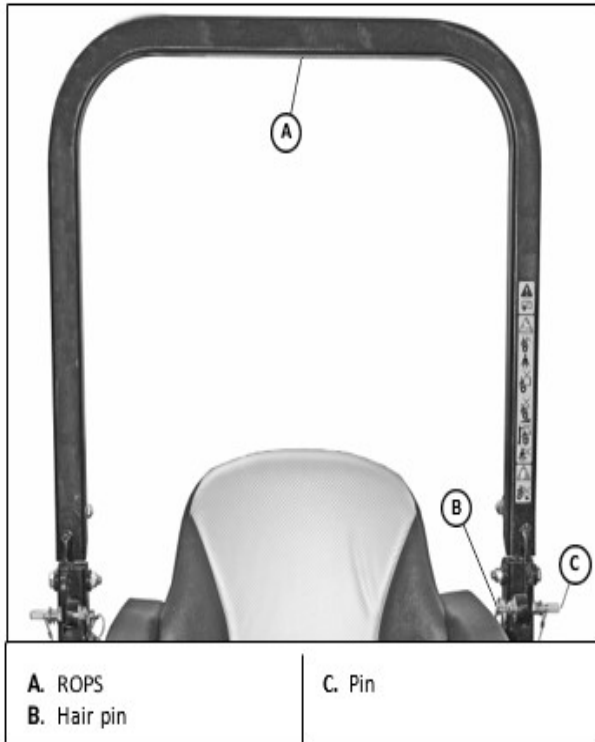

Figure 7
A ROPS may minimize the chance of injury or death from rollover. A ROPS, when used with a seat belt, is effective in reducing injuries during unit overturn accidents. Overturning the unit without a ROPS or without the ROPS locked in the raised position ([Figure 7]) can result in serious injury or death.
1. Check the torque of the ROPS mounting bolts [Figure 7]. Tighten the bolts to the correct torques as shown below if necessary.